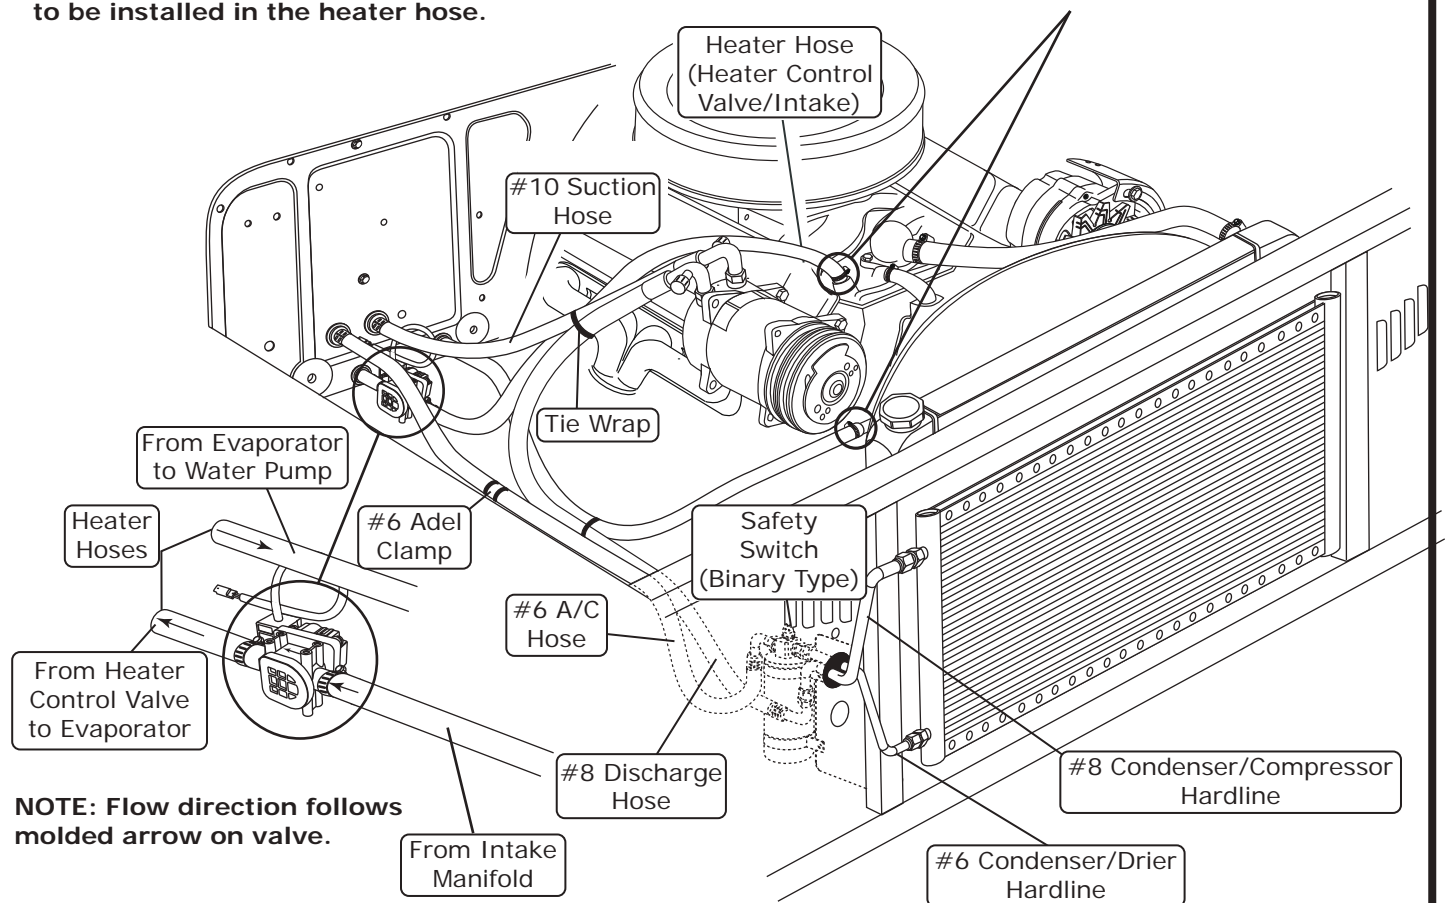

Figure 1
2. Locate the #10 compressor A/C hose. Lubricate (2) #10 O-rings (See Lubricating O-rings, Page 13) and connect the 135° female fitting with service port to the #10 suction port on the compressor. Then route the 90° female fitting to the #10 evaporator hardline (See Heater Hose & Heater Control Valve Installation, Page 14, and Figure 1, below). Tighten each fitting connection as shown in Lubricating O-rings, Page 13.
3. Locate the #6 evaporator/drier hose. Lubricate (2) #6 O-rings (See Lubricating O-rings, Page 13) and connect the 90° female fitting to the drier. Then route the other 90° female fitting to the #6 evaporator hardline (See Heater Hose & Heater Control Valve Installation, Page 14, and Figure 1, below). Tighten each fitting connection as shown in Lubricating O-rings, Page 13.